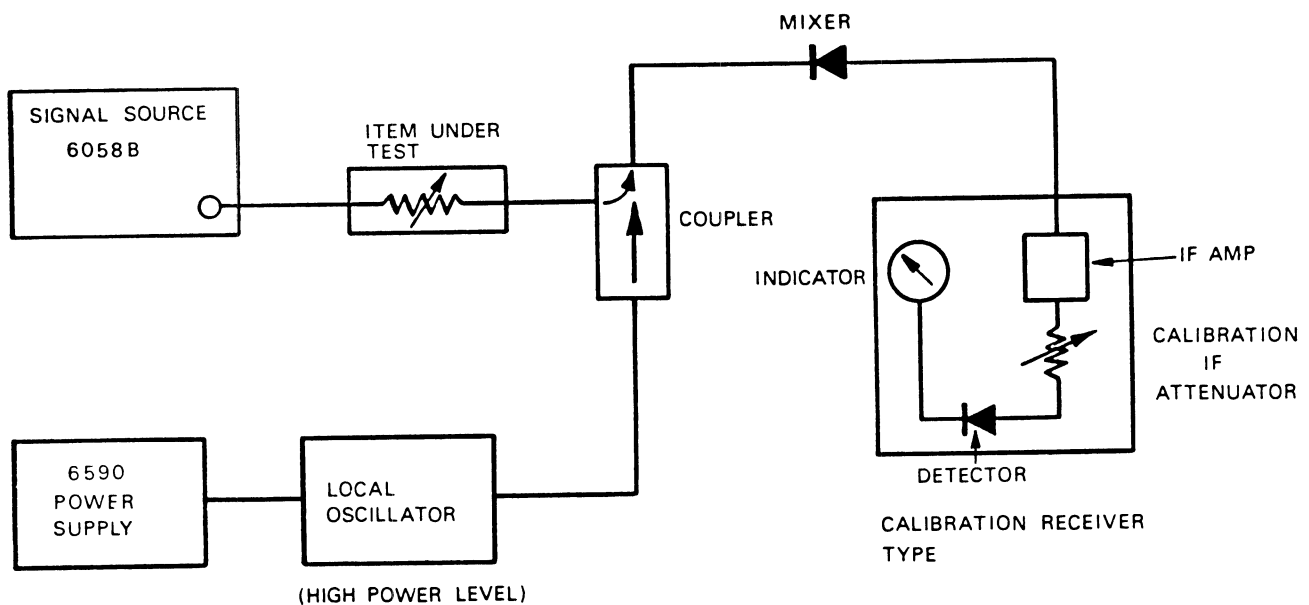

Fig. C1 High Attenuation Measurement
- C. Superheterodyne System for High Attenuation Measurement. Using the equipment as shown in Fig.C1 attenuations of 80 dB can be measured. The system requires that the signals from the signal source and the local oscillator be 45 MHz different in frequency. The most reliable method